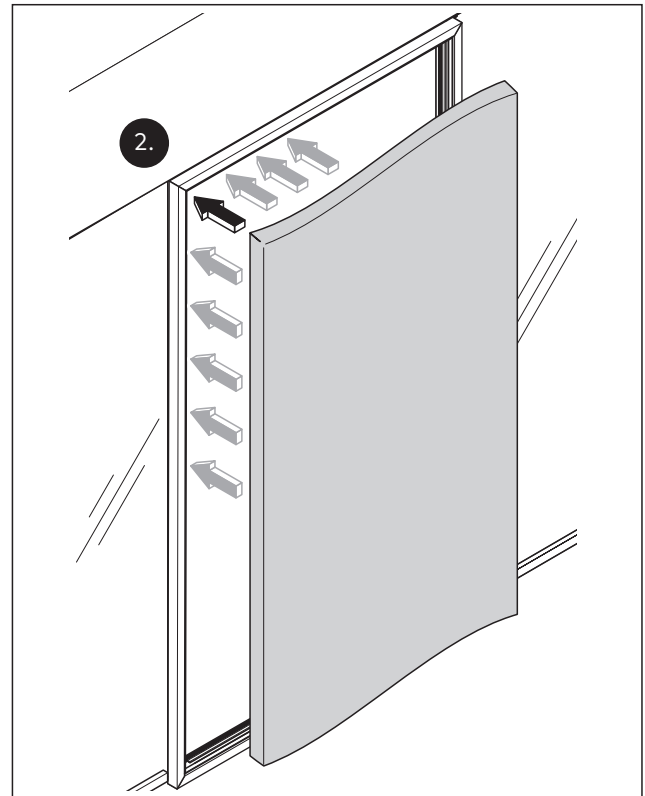

Fig. 38 Press the rubber piping from the top left into each groove to the middle of the two profile sides
2. Press the rubber piping from the top left outwards into the horizontal and vertical groove to the middle of the two profile sides (Fig. 38).